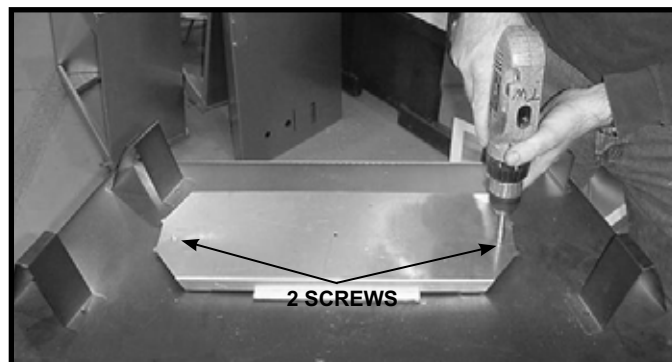

**Figure 6.3**
2. Fasten the shield in place using the four pilot holes. The shield should be oriented such that the 13 1/8 inch dimension (longest dimension) is running in the same direction the elbow is pointing. The shield should be centered directly above the elbow, and positioned so that it creates a 1/2 inch airspace between the shield and the combustible surface. See Figure 6.3.